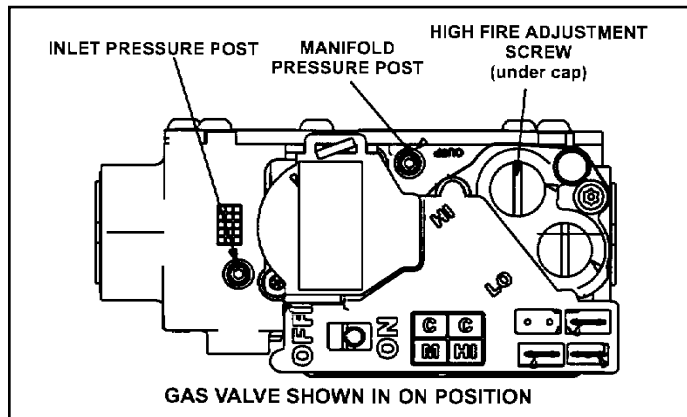

Figure 69.
6. Move gas valve switch to **OFF**. See Figure 69.
8. Move gas valve switch to **ON**. See Figure 69.
An inlet pressure post on the inlet side of the gas valve provides access to the supply pressure. See Figure 69. Back out the 3/32 Hex screw one turn, connect a piece of 5/16" tubing and connect to a manometer to measure supply pressure.
1. A manifold pressure post located on the gas valve provides access to the manifold pressure. See Figure 69. Back out the 3/32 Hex screw one turn, connect a piece of 5/16" tubing and connect to a manometer to measure supply pressure.